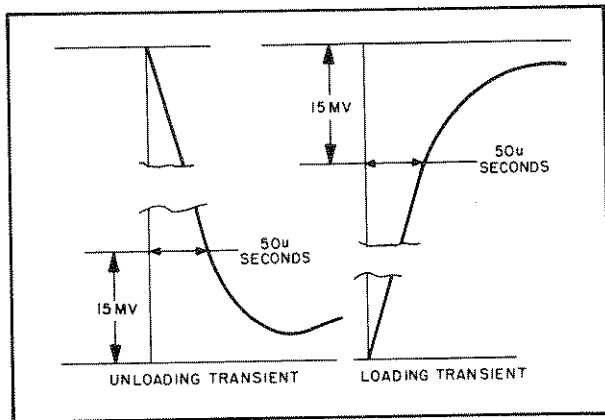

Figure 5-10. Transient Recovery Time, Waveforms
- k. Starting from the major graticule division representative of time zero, count to the right 50  $\mu$ sec and vertically 10 mV. Recovery should be within these tolerances as illustrated in Figure 5-10